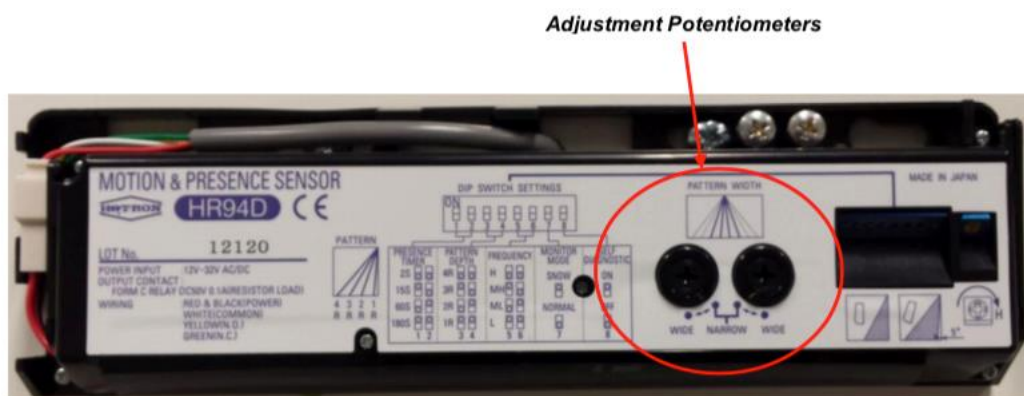

Figure 59: Personnel sensor beam width adjustment potentiometers
1. Access the two potentiometers under the sensor's front cover (Figure 59).